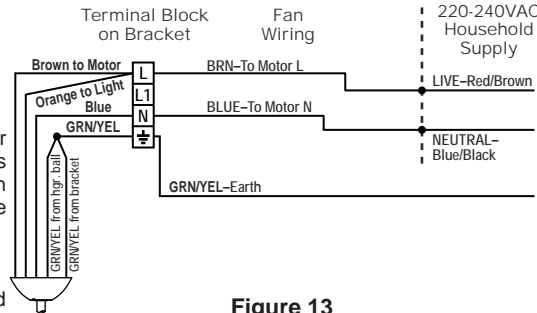

Figure 13
### 1. Wire the Fan (Figure 13):
- Make wiring connections to terminal block as shown in Figure 13.